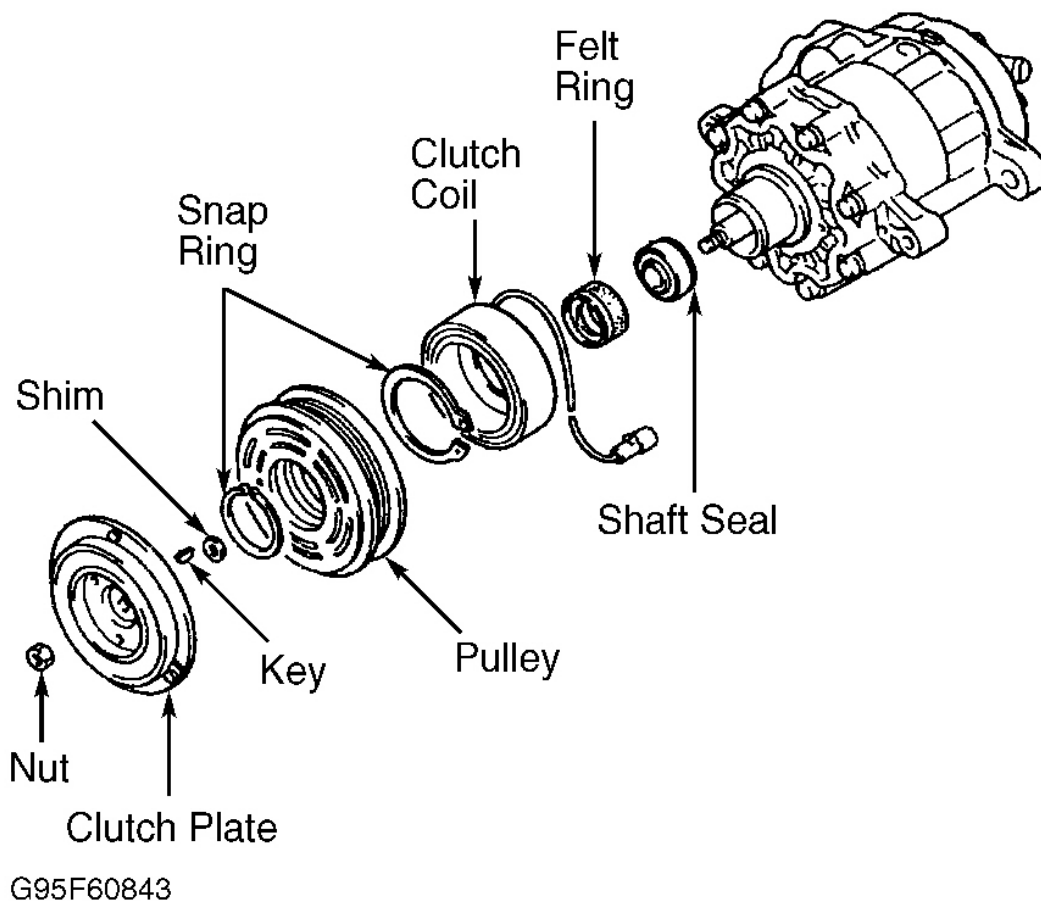

Fig. 13: Exploded View Of Compressor (Sanden SD7B10 7-Cyl.)
1. Remove compressor shaft nut and discard, while holding clutch plate with Clutch Holder (09920-55810). Remove clutch plate using Clutch Plate Remover (09930-35210). Remove shaft key and shim(s). See **Fig. 13**.
Remove clutch plate, pulley and clutch coil. See **CLUTCH COIL**. Remove felt ring, shaft key and shaft seal snap ring. See **Fig. 13**. Insert Seal Remover/Installer (09990-48230) into seal seat and twist remover to engage seal. Pull up on remover/installer and remove seal.